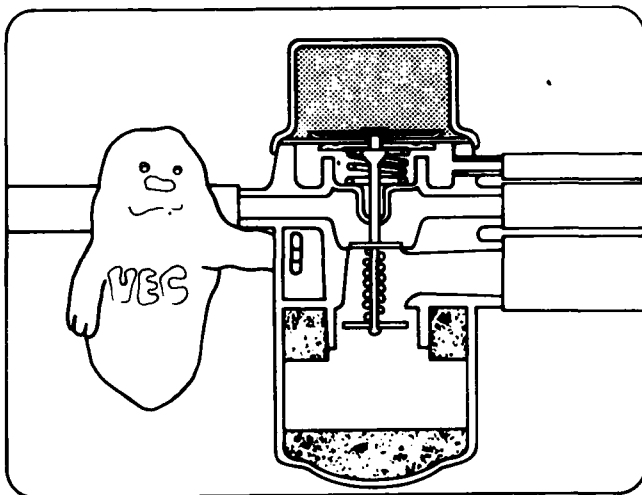

Figure 6-14
5. Figure 6-14 shows a diverter valve being tested. List the basic steps necessary to perform this test.